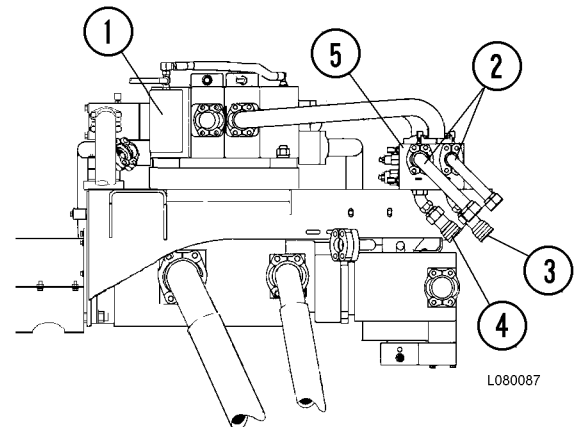

FIGURE 30-1. PUMP MODULE, HOSE HOOKUP
In the example below, Figure 30-1 illustrates a typical hookup from the good truck. The disabled truck may be another Model 930E or a different Komatsu model.
1. With the good truck parked as close as possible to the disabled truck, attach a hose from the power up quick disconnect (4, Figure 30-1) to the power down circuit of the disabled truck. The hose must be rated to withstand 2500 psi (17 MPa) or greater pressure.
NOTE: If both trucks are a model 930E, the hoses will be installed at the quick disconnects shown in Figure 30-1 and will be crossed when connected.
- b. Remove the cap from the hoist pilot valve relief valve (2, Figure 30-1) located in the hydraulics components cabinet behind the cab. While counting the number of turns, slowly screw the relief valve adjustment screw clockwise until it bottoms.